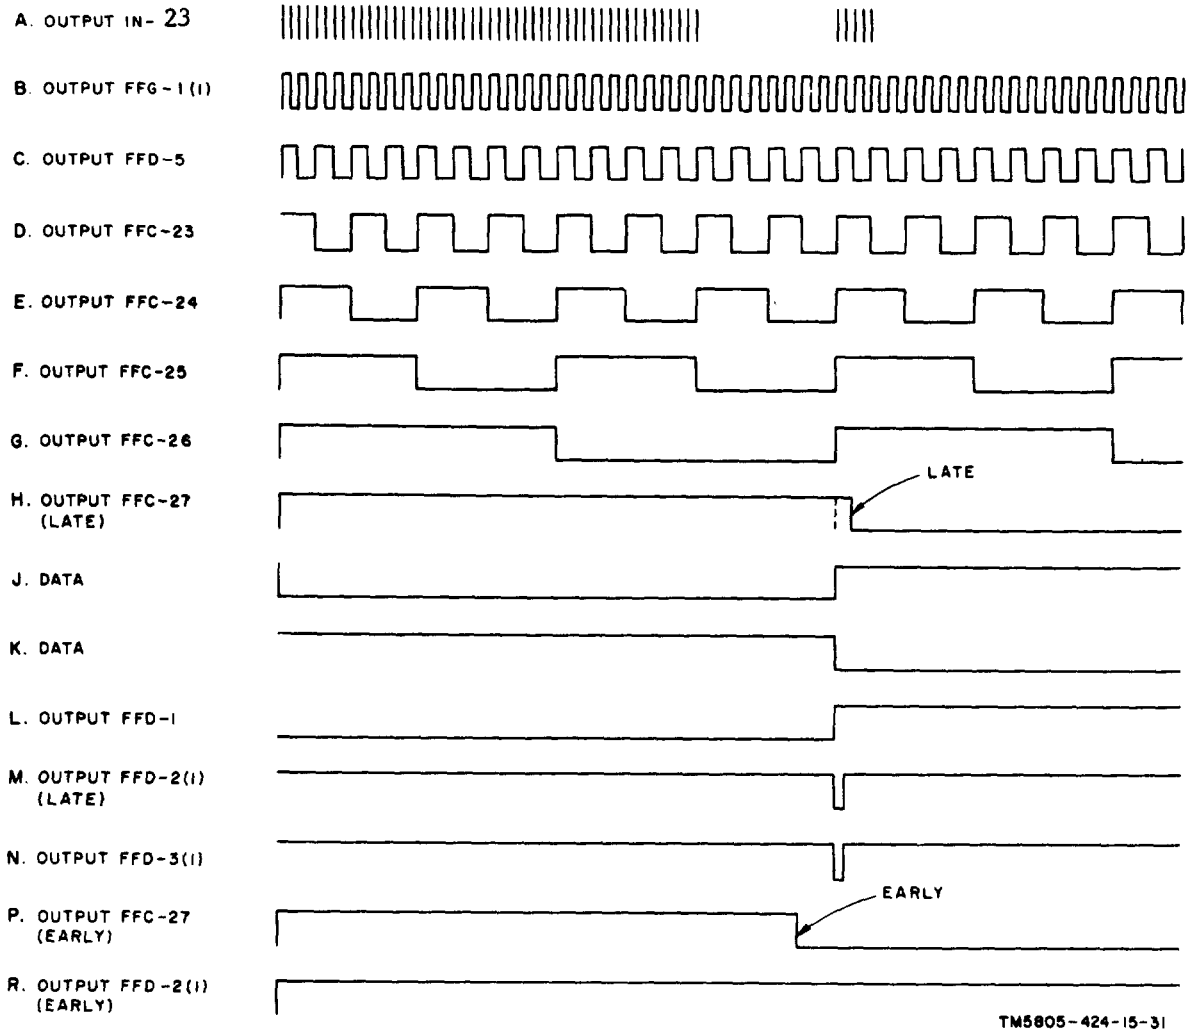

Figure 5-9. Receive timing add-subtract control logic waveforms.
*a. Add-Subtract Control Logic.* Clock signals, at 128 times the baud rate as selected by BAUD RATE switch 1A1S2 (fig. 8-5), are applied through inverter IN-22 (128 divider-A module) to inverter IN-23 in the add-subtract logic module. The timing signals are inverted, and the positive transitions (A, fig. 5-9) are applied to bistable FFG-1, in the 128 divider-B module (fig. 8-5). Bistable FFG-1 divides the input frequency by 2 (B, fig. 5-9) providing a positive trigger to alternate sides of bistable FFD-5, through AND gates GAS-5 through GAS-6 (*b* below). Bistables FFC-23 through FFC-27 (fig. 8-5) form the remainder of the seven-stage countdown chain (D, through H, fig. 5-9), providing an output timing signal equal to the baud rate (bit-time). To minimize distortion of the received data signal (due to a phase difference between the transmit timing and the receive timing), the receive timing clock is synchronized with the data clock, by comparing the receive bit-timing output from bistable FFC-27 with the received data transitions.
(1) Assuming that the receive clock is late (timing signal transitions occur later than the receive data transitions), the positive data-bit (K, fig. 5-9) allows the 128 times baud timing signal to set bistable FFD-1 clear side (fig. 8-5), providing a negative output from FFD-1 (L, fig. 5-9). This negative output has no effect on subsequent circuitry. When the inverted data signal (J, fig. 5-9) is applied to the clear input steering AND circuit of bistable FFD-1 (fig. 8-5), the positive timing trigger (A, fig. 5-9) produces a positive output from the clear side of FFD-1 (L, fig. 5-9) that is applied to the clear (C input of bistable FFD-2 (fig. 8-5) and FFD-3. With the positive output of FFC-27 (H, fig. 5-9) in coincidence with the positive output of FFD-1 (L, fig. 5-9). FFD-2 is cleared providing a positive output at the
0-output line (fig. 8-5) and a negative output at the 1-output line. The positive output at the 0-output line is fed back to the set (S) input steering circuit, where the next positive timing pulse (A, fig. 5-9) sets FFD-2, thus a negative pulse was provided (M, fig. 5-9) from the 1-output line of FFD-2; this pulse advances the receive clock. The positive output of FFD-1 (fig. 8-5), applied to FFD-3, clears FFD-3, providing a negative output at the 1-output line (M, fig. 5-9). The positive output at the 0-output line, fed back to the input steering circuit, allows the next positive timing pulse (A, fig. 5-9) to set FFD-3 therefore, a negative pulse appeared at the 1-output line of FFD-3. This pulse retards the receive clock.
(2) Assuming that the receive clock is early (timing signal transitions occur sooner than the data-transitions), bistable FFD-1 (fig. 8-5) provides a positive output (L, fig. 5-9) as described in (1) above. This positive output clears bistable FFD-3 (fig. 8-5), which provides a negative output pulse (N, fig. 5-9) as described in (1) above. With the output of bistable FFC-27 supplying an early timing transition (P, fig. 5-9), no coincidence is possible between the positive output of FFC-27 and the inverted data signal (J, fig. 5-9). As a result, bistable FFD-2 is never cleared and its 1 output remains in a set or positive condition, so that no negative pulse is produced to advance the receive timing clock.
*b. Clock Correction.* Correction of the receive clock is accomplished in the 128 divider-B module. The 1-output from bistable FFD-3 (fig. 8-5) in the add-subtract control logic module is applied to AND gates GAD-6 and GAD-7 which require two positive inputs to be enabled and provide a positive output. With the FFD-3 output line 1 in a positive condition (N, fig. 5-9), AND gates GAD-6 or GAD-7 can be enabled, depending on the state of bistable FFG-1. Assuming bistable FFG-1 (fig. 8-5) is in a set state; the 1-output line is positive and the 0-output line is negative. The negative output of the 0-output line inhibits AND gate GAD-6 providing a negative input to the C input steering circuit; the positive output at the 1-output line enables GAD-7 which provides a positive input to the S-input steering circuit. Under these conditions, the next positive clock timing signal from inverter IN-23, in the add-subtract control
logic module clear bistable FFG-1. The resultant positive output at the 0-output line now enables AND gate GAD-7, while the negative output at the 1-output line inhibits AND gate GAD-6; thus the S-input steering circuit passes the next positive clock timing pulse to reset bistable FFG-1. Bistable FFG-1 is alternately set and reset by successive positive transitions of the clock signal, thus providing a 2-to-1 signal division. The 1-output of bistable FFG-1 is applied to AND gates GAS-5 and GAS-6, which act as the steering inputs to bistable FFD-5. The positive-going transitions of bistable FFG-1 output line 1 (B, fig. 5-9) are alternately applied through AND gates GAS-5 and GAS-6 thus alternately setting and resetting bistable FFD-5 by successive positive-going transitions from bistable FFG-1. The output of bistable FFD-5 is applied to bistable FFC-23 and subsequently to the remainder of the seven-stage countdown chain, resulting in an output (from bistable FFC-27) that is equal to the bit-time.
(1) Assuming that bistable FFC-27 output bit-timing signal is early (P, fig. 5-9), the negative output produced by bistable FFD-3 (fig. 8-5) inhibits both AND gates GAD-6 and GAD-7. The resulting negative output from each gate inhibits both input steering circuits to bistable FFG-1. Thus, the next positive clock pulse cannot trigger bistable FFG-1, so the bistable remains in the same state for two clock counts. As a result, the time required to trigger bistable FFC-27, which provides the negative output transition (P, fig. 5-9), is lengthened by one count. In this case, 129 input counts, rather than 128, are required to trigger bistable FFC-27; therefore, the bit-timing transition from bistable FFC-27 is made to move toward the data transition (J, fig. 5-9). This action continues, with one clock pulse being deleted for each
(2) Assuming that bistable FFC-27 output bit-timing signal is late (H, fig. 5-9), one clock pulse is prevented from triggering bistable FFG-1 (fig. 8-5) as described in (1) above; as a result, one count is lost in the timing chain, thereby retarding the receive clock by one count. However, with an early output from bistable FFC-27, a negative output is provided by bistable FFD-2 (a (1) above) which is applied to AND gates GAS-4 and GAS-7. Depending on the state of bistable FFD-5, one of these gates is enabled at the trailing edge (positive transition) of the bistable FFD-2 output, providing a positive pulse to trigger bistable FFD-5. Triggering the second bistable in a counting chain advances the counting sequence by two (since two inputs from the first bistable in the counting chain are normally required). Because one clock pulse is inhibited from bistable FFG-1 at the same time that bistable FFD-5 is triggered, the net effect is to advance the overall count by one, thus decreasing the time required to trigger bistable FFC-27 and moving the bit-timing transition (H, fig. 5-9) toward synchronism with the inverter data transition (J, fig. 5-9).
(3) A count is always subtracted from the receive clock once each cycle; therefore, the bit-timing signal from bistable FFC-27 at synchronism is alternately late and early by one count, resulting in a 2-count jitter. This amount of jitter has a negligible effect on the overall timing of the data signal. The corrected receive bit-timing signal from bistable FFC-27 (fig.